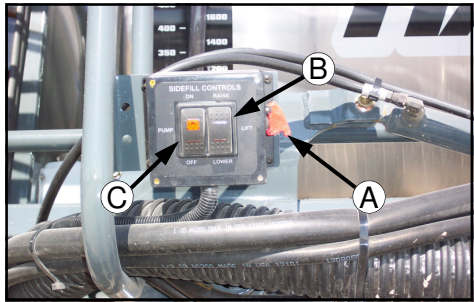

FIG 51-1
**INDUCTOR OPERATION-** With the engine running and the parking brake set, flip the lock switch up (fig.51-1, item A). Lower the inductor assembly with the inductor control box switch (fig. 51-1, item B). If filling with the suck-on attachment, leave the engine running. If filling with the push-on attachment, turn the engine off.
\*To activate “suck-on” pump, flip the inductor control switch up (fig. 51-1, item C). This will start the pump. Flip switch down when filling is complete.